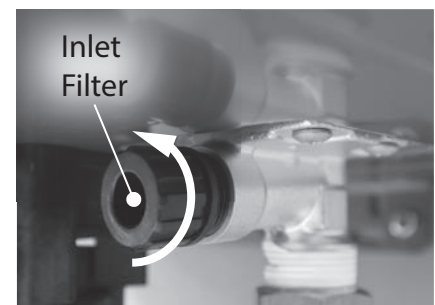

Figure 217 - Locate and remove inlet filter
- 8 Locate and remove the inlet filter as shown in Figure 217 to drain any residual water left in the system.